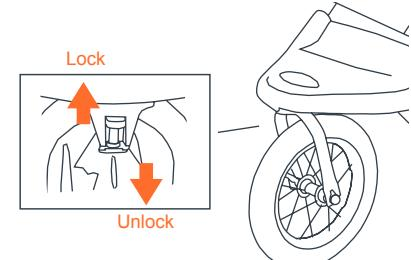

Fig. 12
- 12)** • The front wheel is equipped with a swivel locking device. Push the button on the wheel upward to engage the lock and push downward to disengage the locking device (Fig. 12).